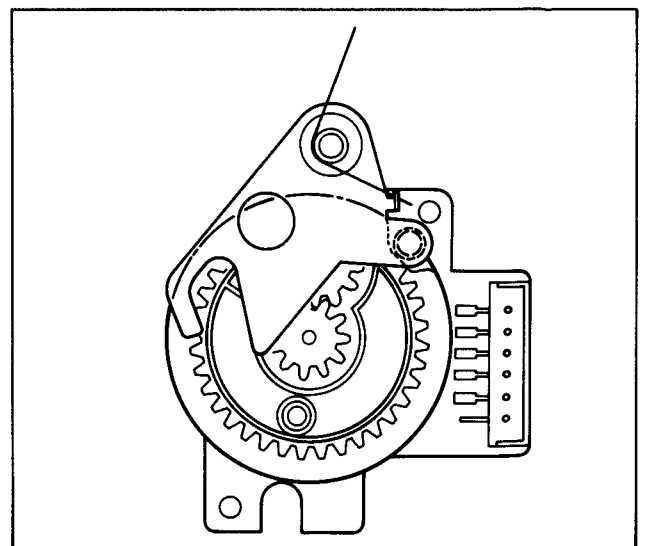

Fig. 1-38
- 12) Operate the mode selector and set in the position shown in Fig. 1-38. The DC roller should be in the groove.